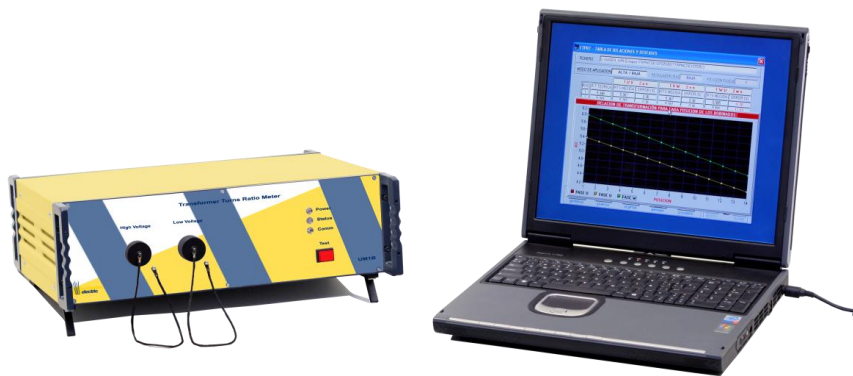
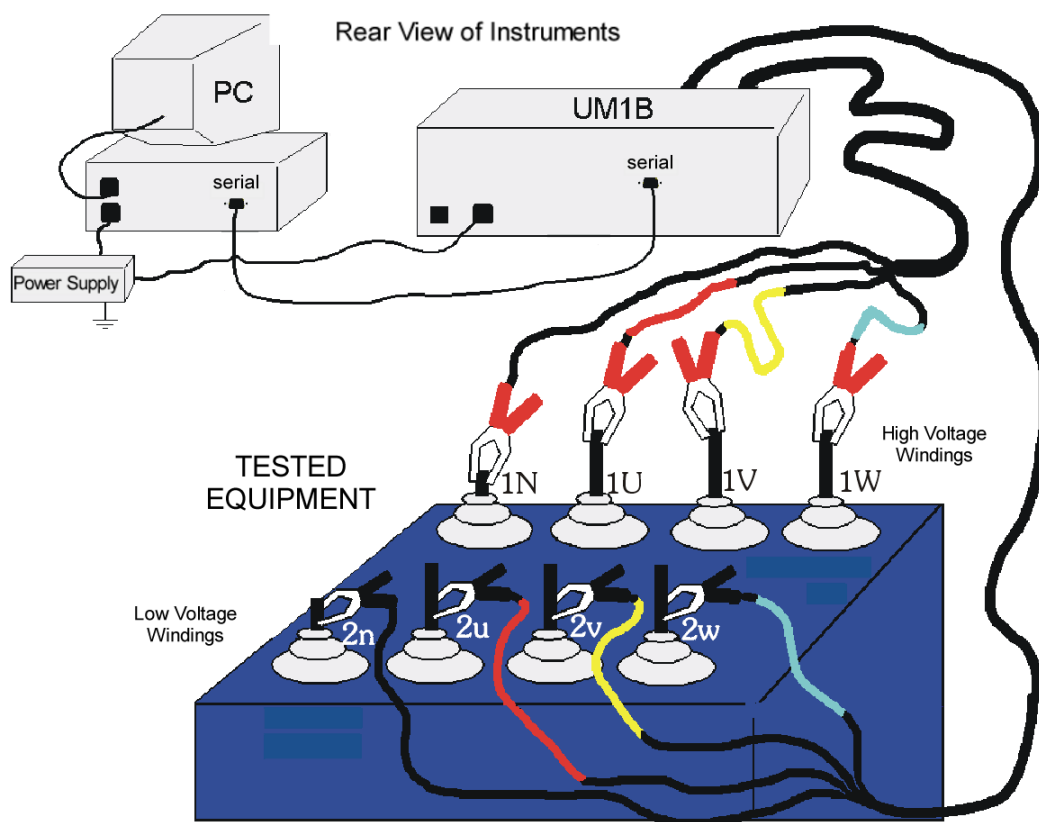

Figure 3-1: Photograph of UM1B equipment.
Figure 4-1: Explanatory drawing of connection of elements for testing.
- Place the measuring unit and the control computer close to the equipment being tested, as shown in Figure 4-1
To carry out a test, the measuring unit and control computer should be located close to the equipment to be analysed, as indicated in Figure 4-1. To start up the equipment, adhere to the following instructions, in the order shown (the different elements on the panels in Figure 3-1 are referred to in brackets):